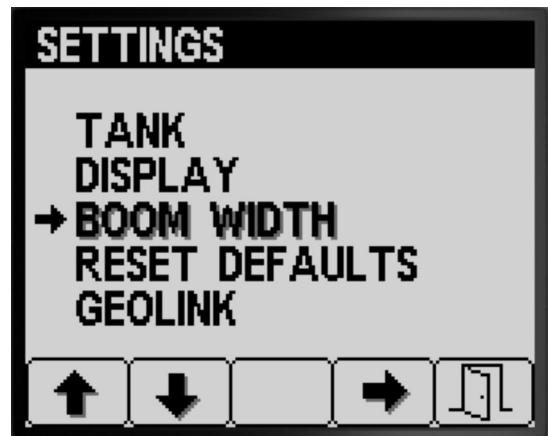

Figure 32
- Press button 2 on the Settings screen until you reach the BOOM WIDTH option (Figure 32).
- Press button 4 to select the BOOM WIDTHS entry (Figure 32).